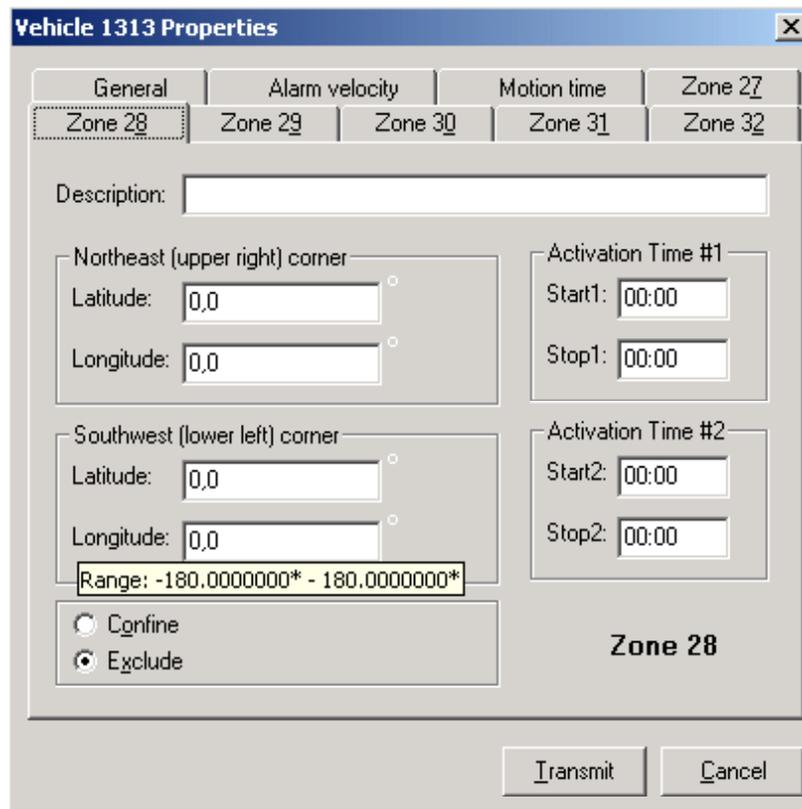

Fig. 23 Vehicle properties. Zone 28 tab
- *Zone 27 - Zone 32 tabs* have the same structure. These tabs determine six geographic zones supervised by the vehicle subscriber unit. Zone 27 tab in the geographic coordinate input format "degrees-minutes-seconds" is shown in Fig. 22. Zone 28 tab in the geographic coordinate input format "decimal degrees" is shown in Fig. 23.